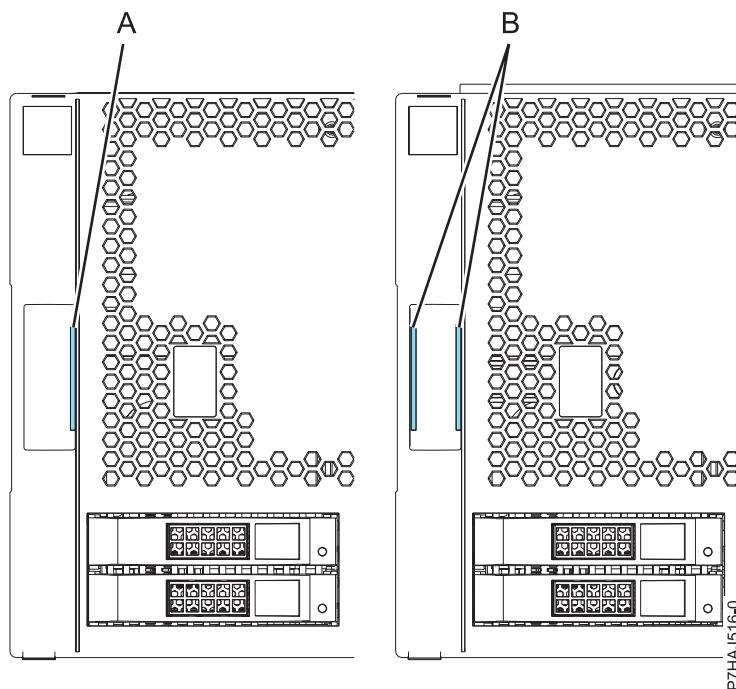

Figure 6. Identifying the older and newer covers
**Note:** The older covers that were shipped before 1 March 2011 can be identified by a single blue stripe (A) on the cover assembly latches. Newer covers that were shipped after 1 March 2011 have two blue stripes (B) on the cover assembly latches. See Figure 6.